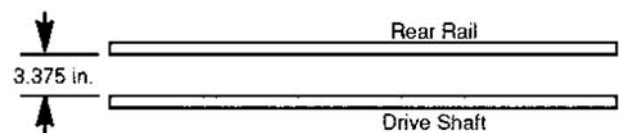

FIG. 41
2. Align the drive shaft and rear carriage rail (FIG. 41) so the distance between their facing surfaces is 3.375 in. +/- .010 (85.75 mm +/- 0.25). See FIG. 41. Then tighten the support block bolts.